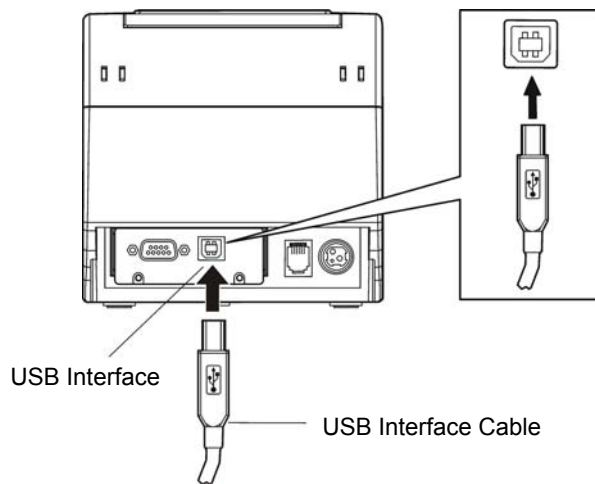

Figure 2-4 Connecting the USB interface cable
2. Plug the USB cable B end (square shape) into the printer's USB interface as shown in Figure 2-4.